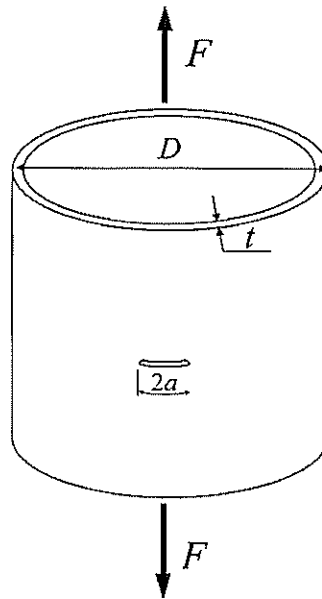

Figure 1. Sketch of the cracked glass tube described in question 2 (d).
- (d) A thin-walled glass tube of diameter $D = 200$ mm and wall thickness $t = 2$ mm is loaded in axial tension by a force F , as shown in Figure 1. Glass has fracture toughness $K_{Ic} = 0.5 \text{ MPa}\sqrt{\text{m}}$. Due to an accidental impact, the tube contains a small through-thickness crack of length $2a = 4$ mm oriented in the circumferential direction. Calculate the force at which the tube will fracture.